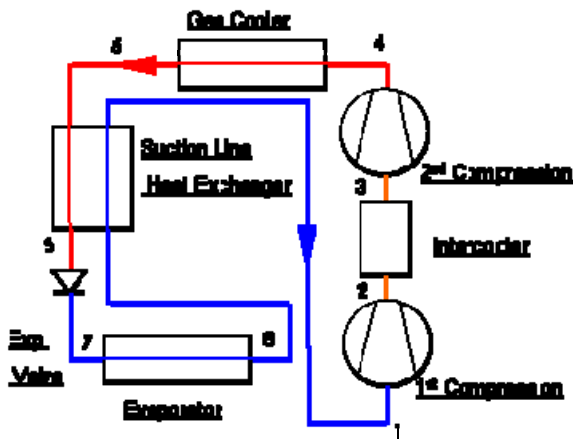

Figure 2 CO₂ refrigeration cycle
Although the high working pressure issue was addressed by the 2-stage compression mechanism with internal intermediate pressure structure, the lower efficiency for the refrigeration applications also needed to be addressed. The solution was the combination of suction line heat exchanger (SLHX) and intercooler (IC) as shown on Figures 2 and 3 (SLHX : 5→6 / 8→1, IC : 2→3).